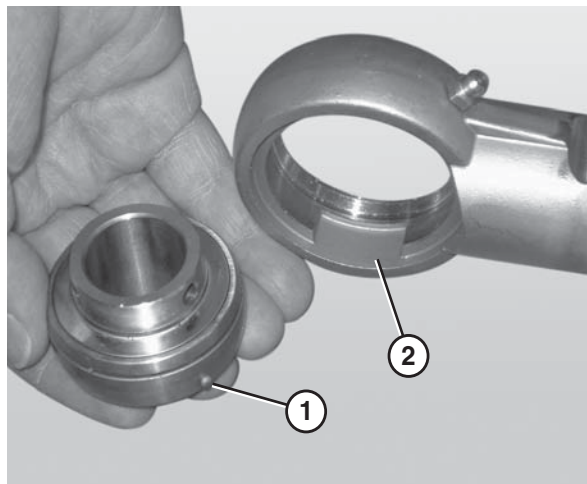

Figure 74
4. Remove the worn or damaged bearing (**Figure 74**).
*When inserting the new bearing, make sure the anti-rotation notch (**Figure 74, item 1**) on the bearing lines up with the groove inside the housing (**Figure 74, item 2**).*